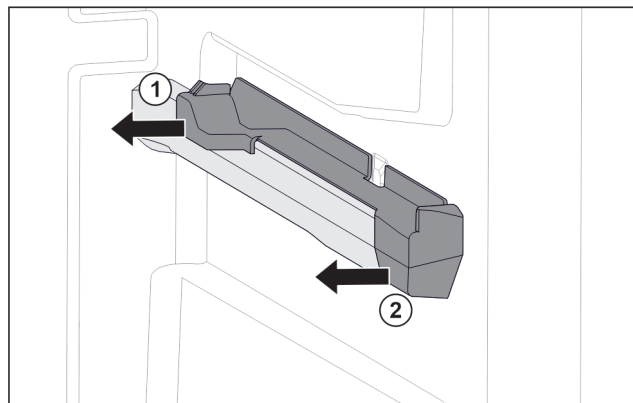

Fig. 43 Attachment on the right moulded rib
► Pull off attachment at the back sideways. Fig. 43 (1)
► Pull off attachment at the front sideways. Fig. 43 (2)